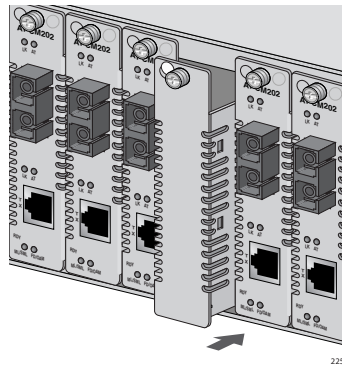

Figure 66. Inserting an AT-CV5PNL1 Blank Slot Cover
- Slide the blank slot cover into the slot, as shown in Figure 66, until the slot cover is flush with the front of the chassis.